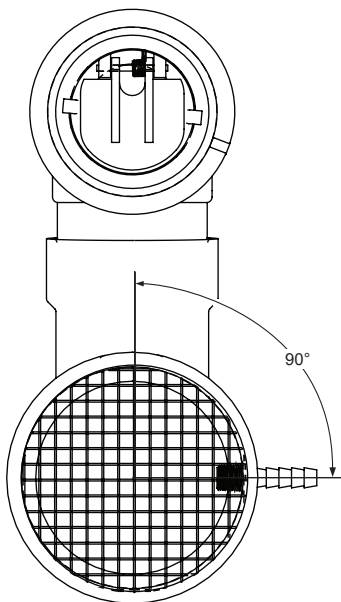

Figure 28. Intake Air Connection Hose Barb Angle for Proper Operation - End View
The intake-air Tee fitting is installed with the 1/2 inch branch and hose barb angled to the right at 90° when viewed from the end. See **Figure 28**.
6. Adjust the angle of the tee fitting so that the 1/2 inch branch and hose barb are at the proper angle as shown in **Figure 28**.